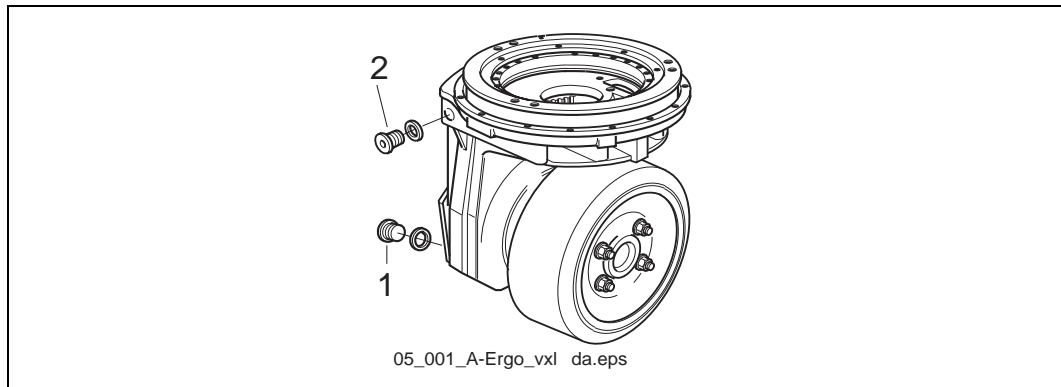

Figure 5.1 Gearbox
1. If oil needs to be drained off this is done through the plug in the bottom of the gearbox, pos. 1 figure 5.1
2. Oil is filled either through the plug, pos. 2 figure 5.1, or by dismantling the motor.
3. The oil should lie at the same level as the hole by the screw, pos. 2 figure 5.1. Fill with oil until the oil starts to run out from the hole.
Do not forget to fill the gearbox with oil before starting up. The oil can be filled before the drive motor is assembled on the gearbox. To ensure the oil level is correct: open the level plug, pos. 2 figure 5.1, and drain off any excess oil.